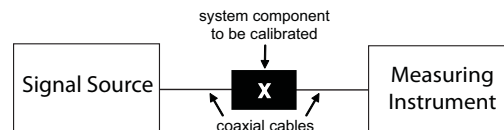

FIGURE 4 - Setup for Insertion Loss Measurements (I)
- 2) INSERTION LOSS MEASUREMENTS **(I)** - Without changing any equipment settings, and with the equipment set up as shown in Figure 4, measure and record the signal level (*in dBμV*) at the same frequencies used in Step 1.